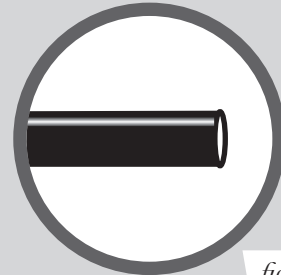

fig. 12
When cutting air lines, use a sharp knife or a hose cutter and make clean, square cuts (Fig. 12). Do not use scissors or wire cutters because these tools may deform the air line, causing it to leak around fittings. Do not cut the lines at an angle.
- a. Check the air line connection by deflating the spring and removing the line by pulling the collar against the fitting and pulling firmly on the air line. Trim 1" off the end of the air line. Be sure the cut is clean and square (see Fig. 12). Reinsert the air line into the push-to-connect fitting.